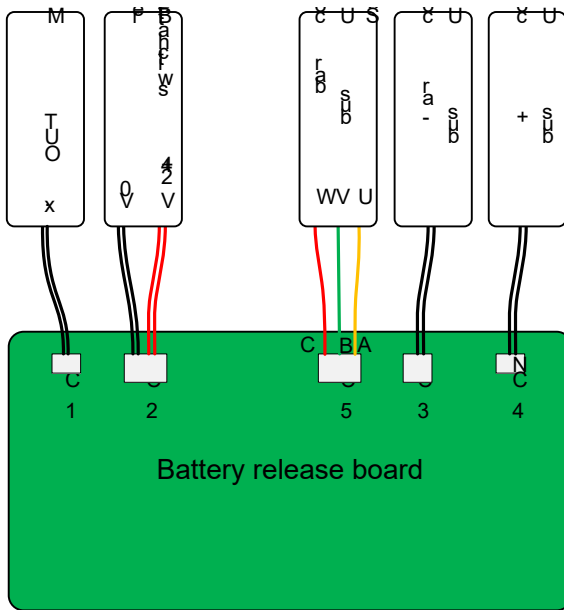

Figure3-27 Illustration for terminal connection of battery release
Step 2 Connect the CN1~CN5 on PCB to the UPS and bus bar of customer respectively, for the connection illustration of each terminal as shown in Figure3-27.